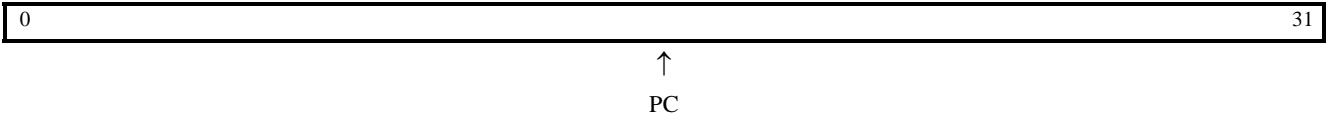

Figure 2-3: PC
The Program Counter (PC) is the 32-bit address of the execution instruction. It can be read with an MFS instruction, but it cannot be written with an MTS instruction. When used with the MFS instruction the PC register is specified by setting Sa = 0x0000. Figure 2-3 illustrates the PC and Table 2-8 provides a description and reset value.